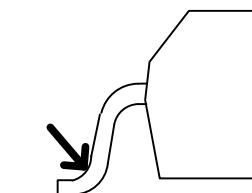

Figure 1: Total Resistance
- 10) The resistance is defined as the total resistance measured from a point of the lead next to the solder joint, assuming that the two $IP+$ pins (and $IP-$ pins) have the same potential (see Figure 1). This definition corresponds to the effective resistance used to estimate the Joule heating, calculated with $R \times I_P^2$.